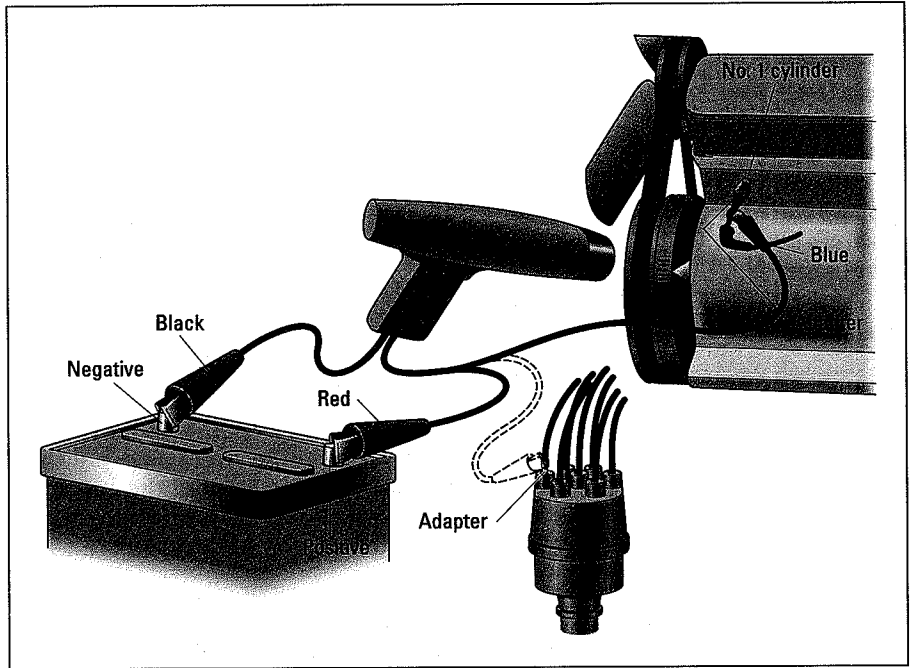

Figure 12-47: Attaching the third clip to the #1 spark plug or the #1 distributor terminal.
- If your #1 spark plug is hard to get at, you can attach the third clip to the distributor terminal tower where the wire from the #1 plug enters the distributor cap. Just trace the wire from the plug to the distributor, remove the boot from the distributor cap terminal, add a metal extension (usually supplied with the light), replace the boot, and clamp the clip to the extension (see Figure 12-47).